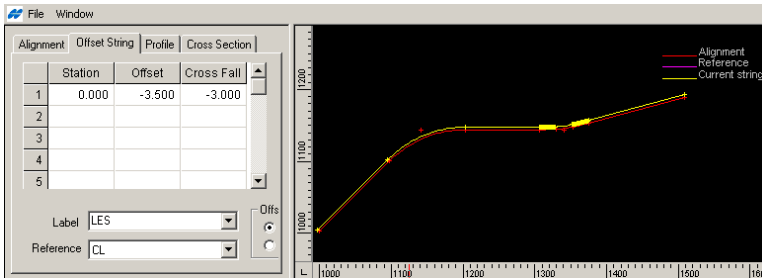

Figure 13-8. Offset String Tab Parameters
- Set each string to the Left or to the Right of the Reference String. If the string is at a constant offset and crossfall from the reference string, only one line of data is required. The new string displays on screen (Figure 13-8).